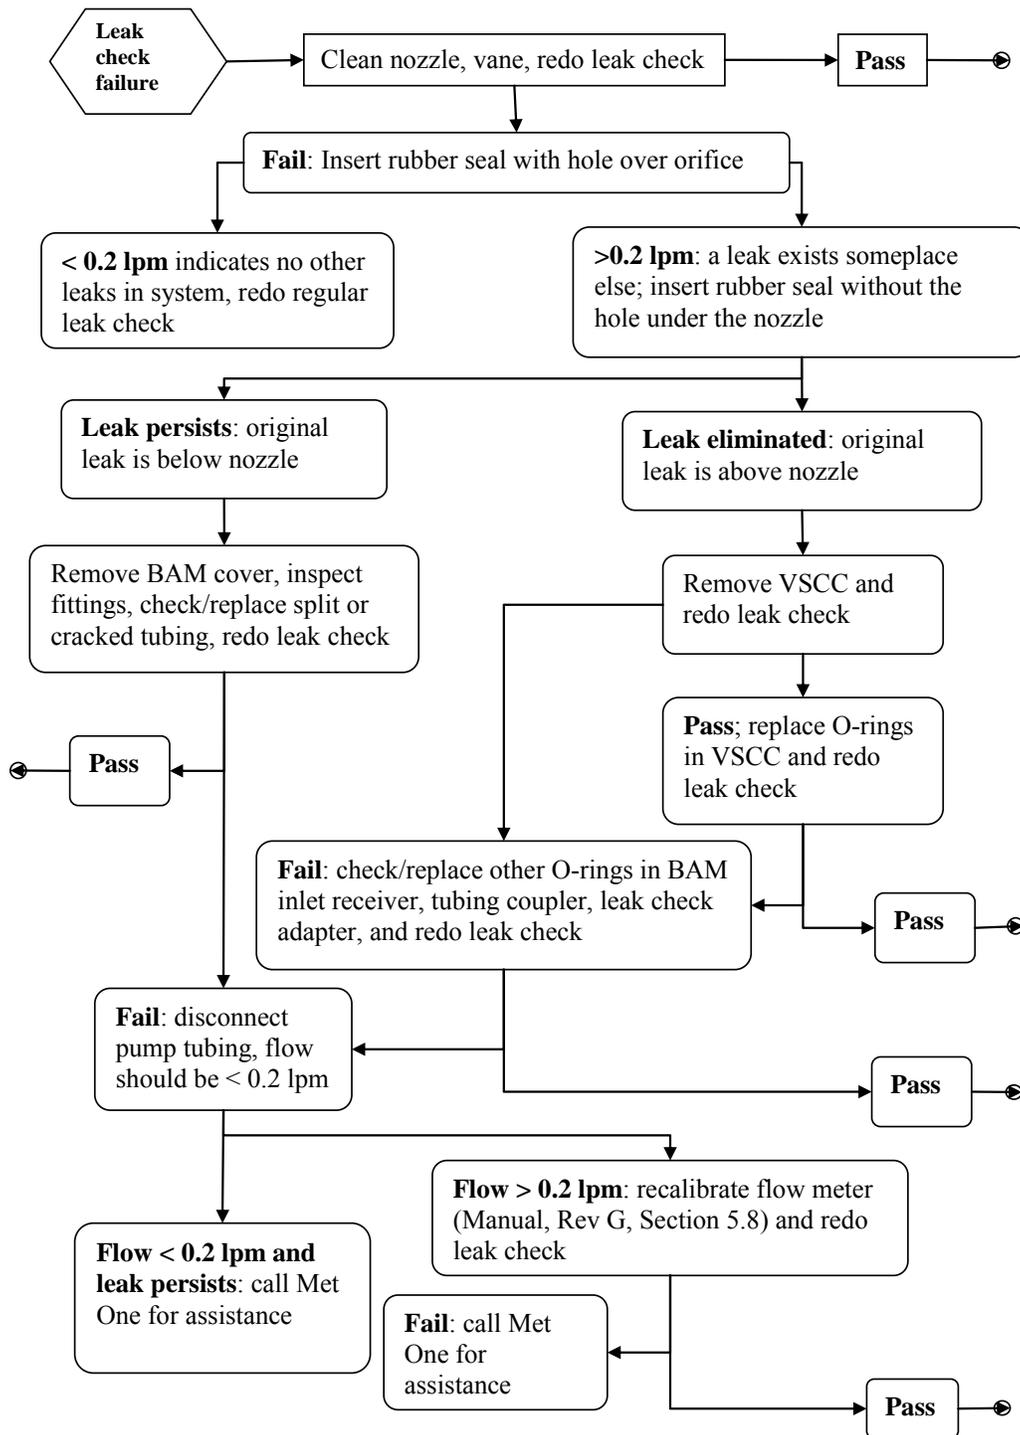

Figure 10-1. A decision tree/flow diagram for identifying leaks in the BAM-1020.
**Figure 10-1** is a flow chart depicting the sequential steps to take when tracking down a leak.